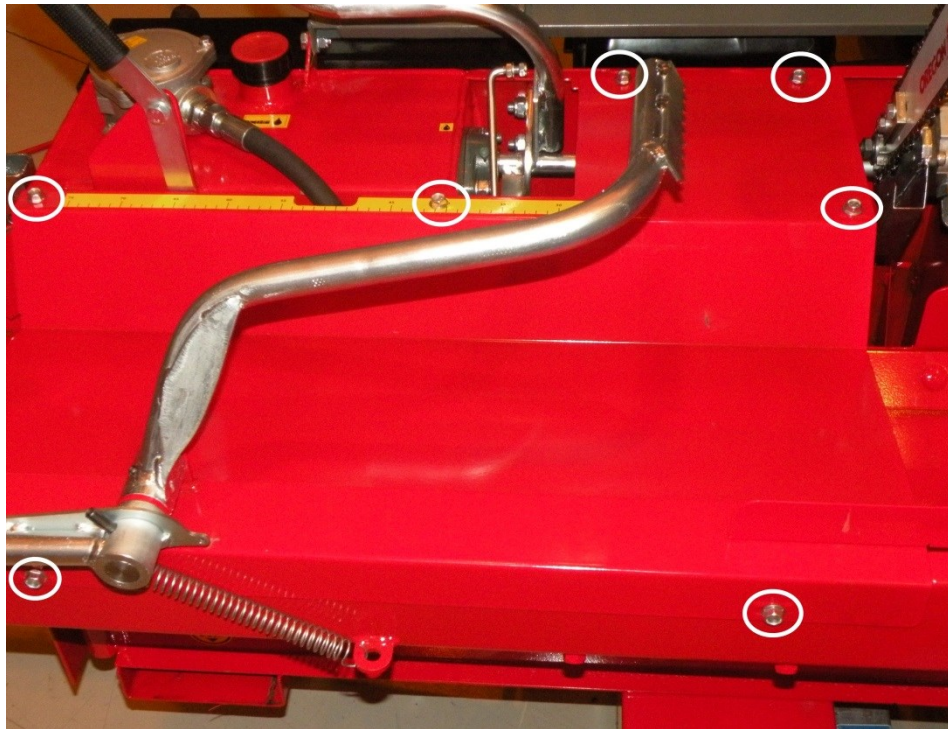

Figure 25.
2. Remove the fastening bolts in Figure 25 (5 pcs) and the input table cover.